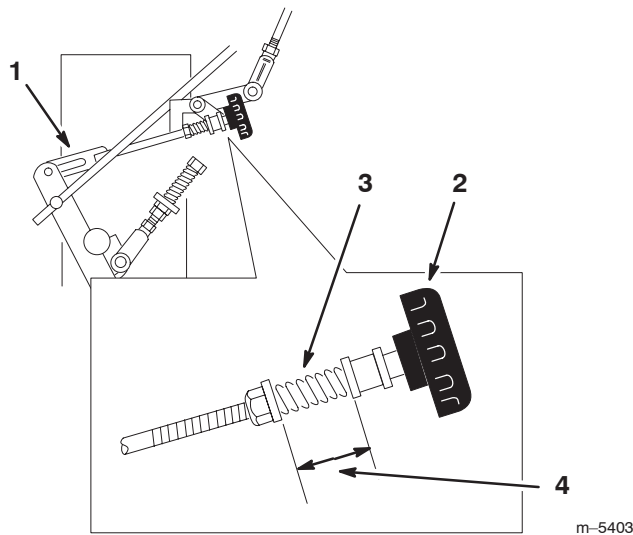

Figure 53
4. Adjust the right side linkage by turning the quick track knob counterclockwise until the tire begins to rotate forward (Fig. 53).
5. Turn the knob clockwise 1/4 of a turn at a time. Then move the speed control forward and back to neutral. Repeat this until right wheel stops rotating forward (Fig. 53).
6. The spring that keeps tension on the knob should normally not need adjustment. However if an adjustment is needed, adjust the length of spring to 1 inch (26 mm) between the washers (Fig. 53).
7. Adjust spring length by turning nut at front of spring (Fig. 53).